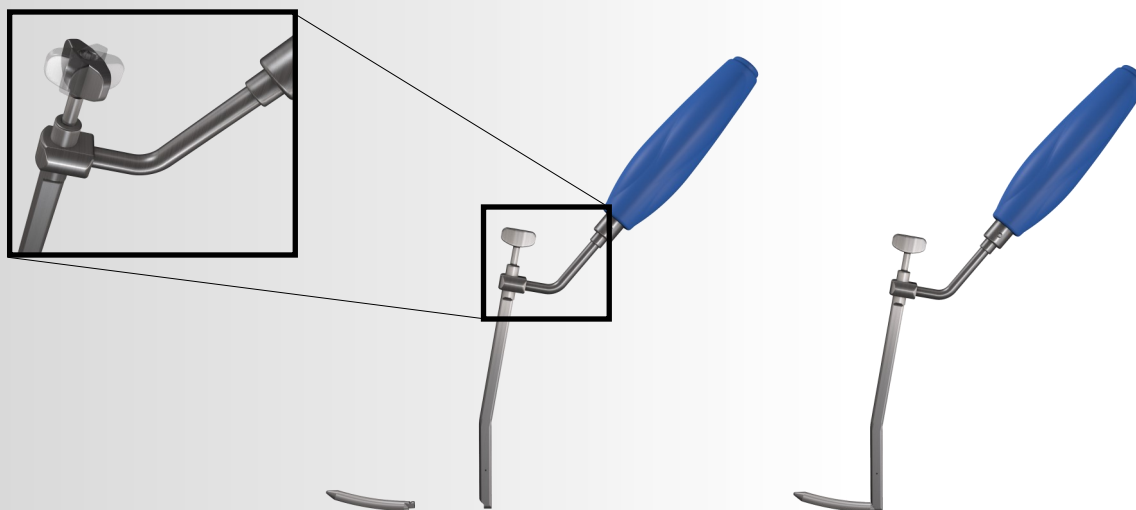

Figure 21
- A. Place the end of the rod into the opening on the distal end of the **Rod Inserter**. Lock the rod into position by twisting the knob (Figure 21) on the Rod Inserter Shaft clockwise until fully engaged with the rod. Check that the connection is rigid.